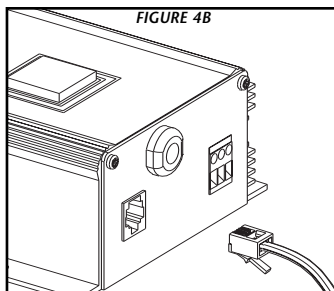
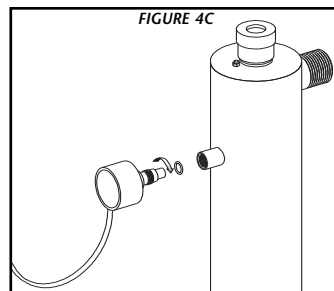

FIGURE 4B
FIGURE 4C
2. Before removing the sensor assembly, follow the steps as outlined in the "Quartz Sleeve Replacement And/Or Cleaning" section. The quartz sleeve should be cleaned at the same time as the UV sensor. Disconnect the UV sensor from the Platinum ICE controller by disconnecting the sensor cable (Figure 4b). To remove the sensor, grasp the stainless portion of the sensor and rotate counter-clockwise (Figure 4c) until the sensor is free of the threaded sensor port.